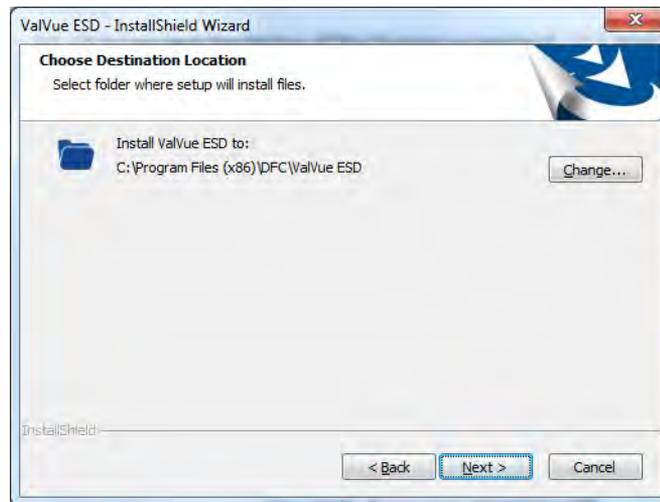

Figure 6 Destination Folder
3. Click **I accept the terms of the license agreement**, click **Next** and Figure 6 appears.